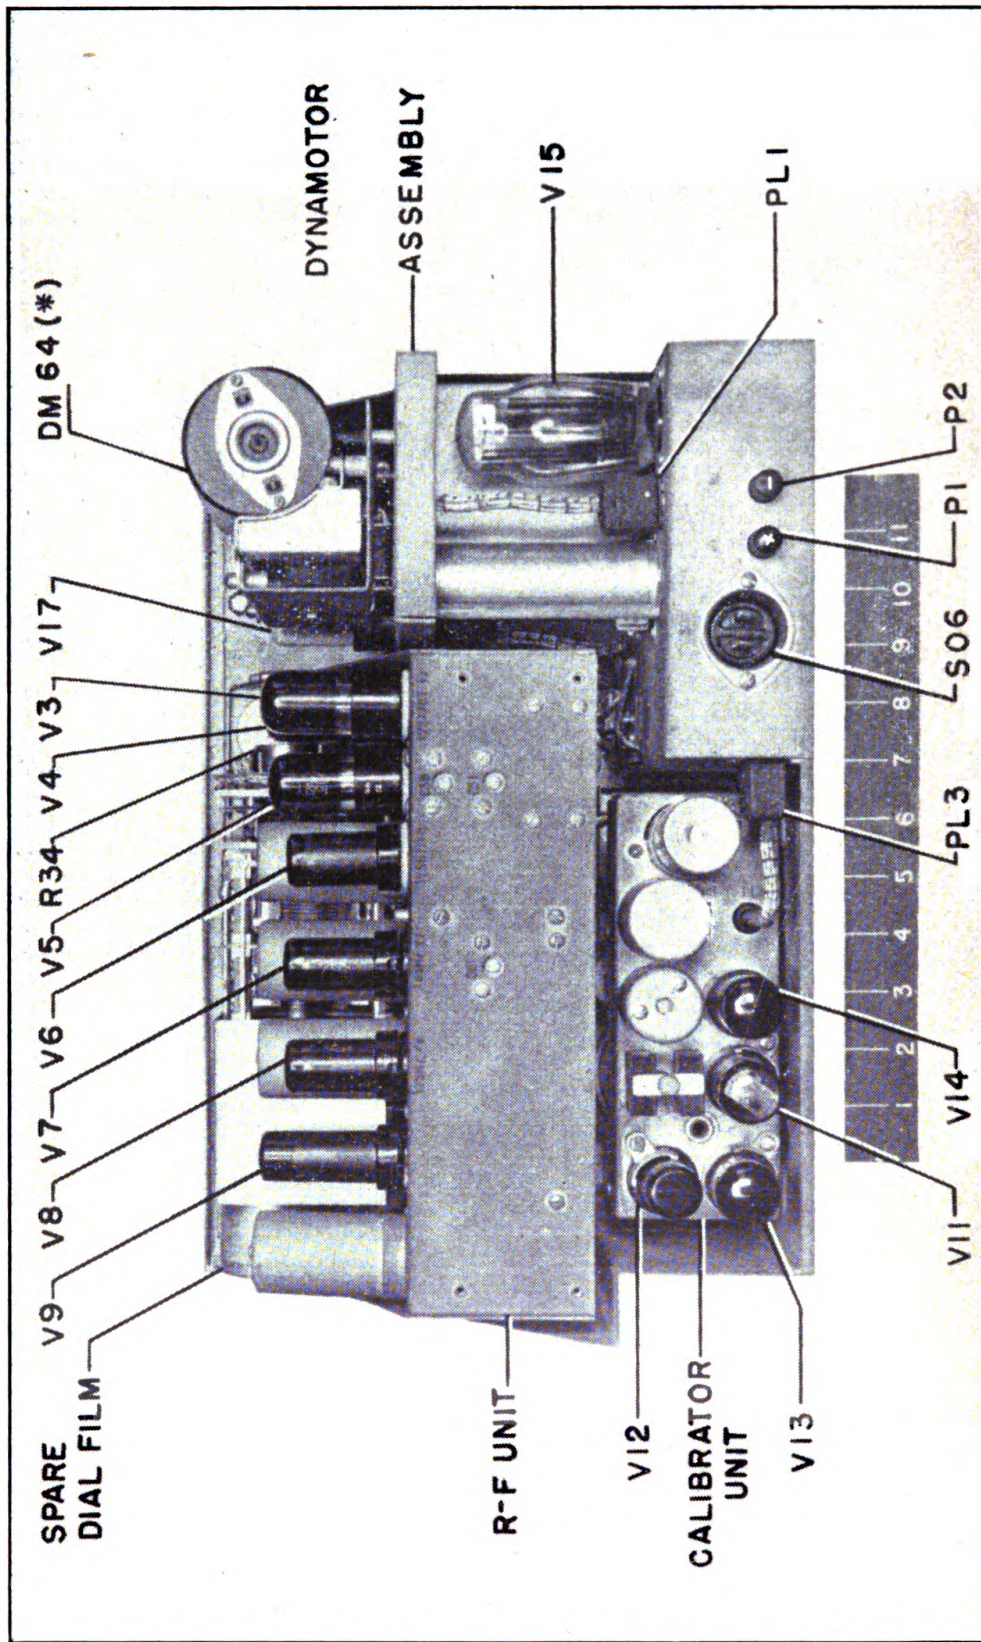

Figure 7—Signal Generator I-208, rear view, dust cover removed
a. The r-f unit is located beside the dynamotor assembly and the power supply (figure 7). It contains the frequency modulator, the r-f oscillator, the frequency multipliers, the output stage, the attenuator, and the dial mechanism. The r-f unit is mounted to the front panel. All electrical connections are made through a plug and receptacle to facilitate removal of this unit.
- (1) Tuning capacitor TC_1
- (2) Capacitor C_{51} (trimmer capacitor)
- (3) Capacitor C_{50} (frequency corrector capacitor)
- (4) Capacitor C_{52} (temperature compensating capacitor)
a. The calibrator unit is located at the rear of the signal generator beneath the r-f unit (figure 7). The calibrator unit contains two Crystal Units DC-23-A (one as a spare) and the components required for frequency checking. The signal generator will operate with the calibrator unit removed, but its frequency must then be checked by some external means.
a. The main power supply assembly is shown in figure 7. Its chassis supports all the other units and contains all of the power supply components except the voltage regulator tube, the current regulator tube and the dynamotor. A speaker and headset jack (used in frequency checking) are mounted to the upper left corner of the front panel. A metal guard folds down over the front panel for protection during transit or while in storage (figure 1). A metal dust cover houses the components located behind the front panel and provides storage compartments for cords and connectors (figure 2).
a. The dynamotor assembly is located at the upper left corner of the signal generator (figure 7). It contains the dynamotor, the voltage regulator tube, and the current regulator tube.